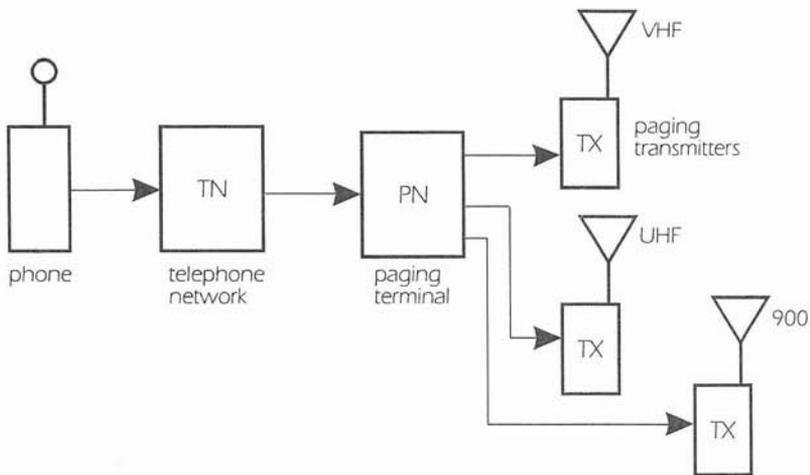

Figure 1-1: Commercial Paging System
How does the paging system work as a whole? Let's investigate by looking at a typical paging system for Anytown, USA as shown in Figure 1-1. A page is initiated at a touch-tone phone. To page your spouse, for example, you'd dial a phone number assigned to the pager, wait for the automated voice prompt from the paging terminal - "please enter a number followed by the # sign," enter the phone number where you'd like to be reached, and hang up. The paging terminal, in turn, "makes up" the paging message for your spouse, including your message and the address of the pager (ID), adds it to a stack of pages to be sent, and transfers these pages within a few minutes to a bank of transmitters. Once transmitted, at the radio frequency assigned to your paging service, your spouse's pager beeps - after recognizing its unique ID - and stores the message sent.